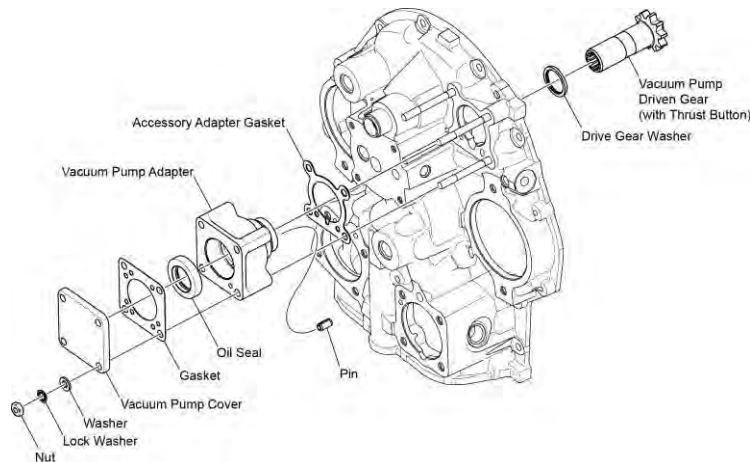

Figure 2
- (1) Remove the four nuts, lock washers, and washers from the vacuum pump adapter or vacuum pump cover (Figure 2). Discard the lock washers.
- (1) Apply engine oil mixture to the vacuum pump driven gear.
- (2) Install the vacuum pump driven gear (with the thrust button already installed inside the geared end) on the accessory housing (Figure 2).
- (3) Install the drive gear washer on the vacuum pump driven gear.
- (4) Install a new pin in the vacuum pump adapter.
- (5) Install a new accessory adapter gasket on the vacuum pump adapter in the correct orientation as shown in Figure 2.
- (6) Apply a light coat of Loctite[®] 222 or equivalent to the vacuum pump adapter seal bore and install a new oil seal in the vacuum pump adapter seal bore.
- (7) Install the vacuum pump adapter with a new gasket on the vacuum pump driven gear as shown in Figure 2.
- (8) Install the vacuum pump or vacuum pump cover with a new gasket on the vacuum pump adapter with four nuts, four new lock washers and four washers. Torque the nuts to 96 to 108 in.-lb (11 to 12 Nm).